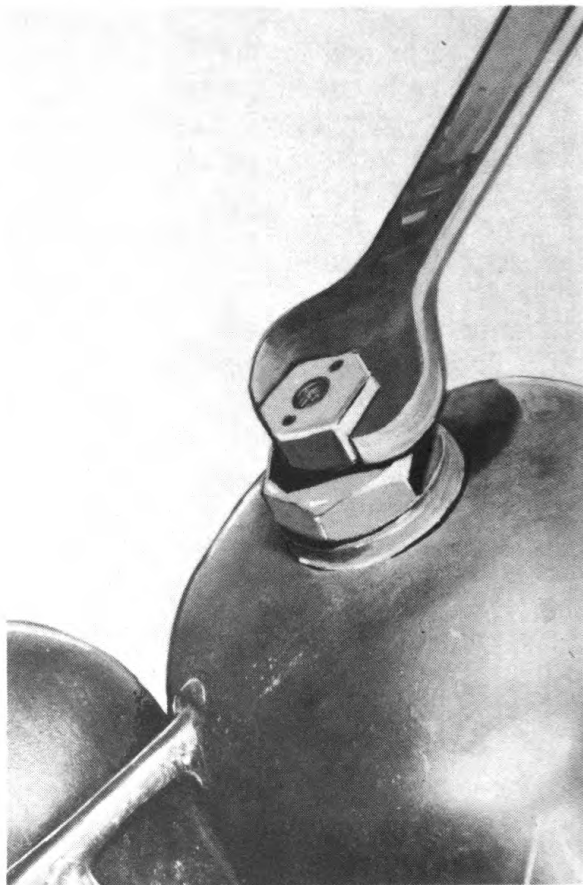

Fig 41. Unscrewing safety head from safety-head plug, using wrench.
b. Removal of plugs. (1) Before removing the filling plug, the safety-head plug, or an unbroken safety head, operate the fuel valve until any pressure which may have accumulated in the fuel tanks is eliminated. If the coupling plug is in the tank coupling, very slightly loosen the threads of either the filling plug or the safety-head plug, using the 1-3/4-inch wrench, to eliminate pressure in the fuel tanks. Keep face and eyes away from the threads.
(2) The plug-retainer assemblies should not be lifted completely out of the tanks unless required.
(3) If either the rod or the rod and chain breaks from one of the plugs and falls into the tank, upend the tank group to permit removal of the parts.
(4) To replace burst safety head, unscrew lock nut and deflector tube. (Fig 11) Using wrench (Fig 41), unscrew safety head. Never disassemble the safety head.